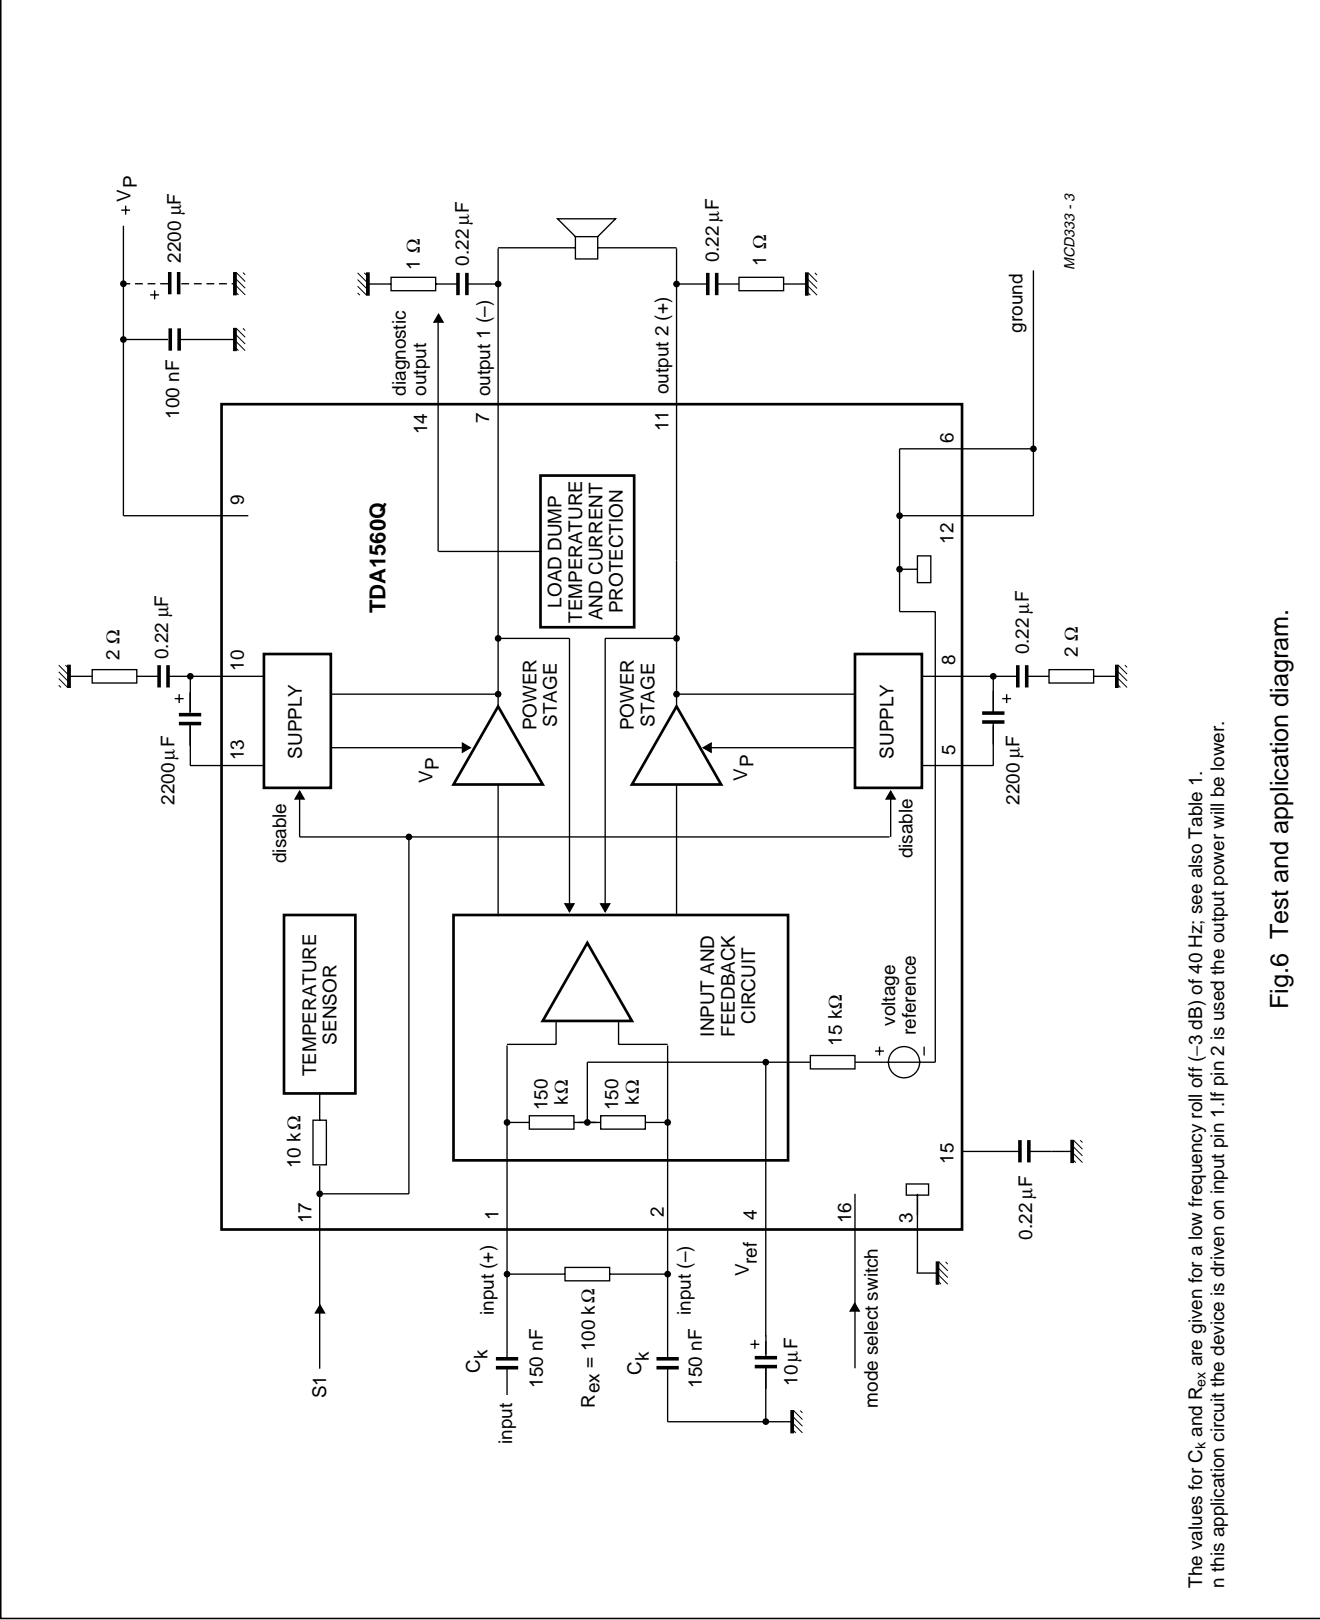

Fig.6 Test and application diagram.
$V_P = 14.4\text{ V}$; $R_L = 8\ \Omega$; $T_{\text{amb}} = 25\text{ }^\circ\text{C}$ and using 4 K/W heatsink; measured in Fig.6; unless otherwise specified.
$V_P = 14.4\text{ V}$; $R_L = 8\ \Omega$; $f_i = 1\text{ kHz}$; $T_{amb} = 25\text{ °C}$ and using 4 K/W heatsink; measured in Fig.6; unless otherwise specified.
1. With a continuous sine wave input signal the output power is approximately 1 W less than driven with a burst signal; also depending on the equivalent series resistance of the electrolytic capacitors C1 and C2 (see Fig.6) and the resistance of the connections between pins 5, 8, 10 and 13 and C1, C2.